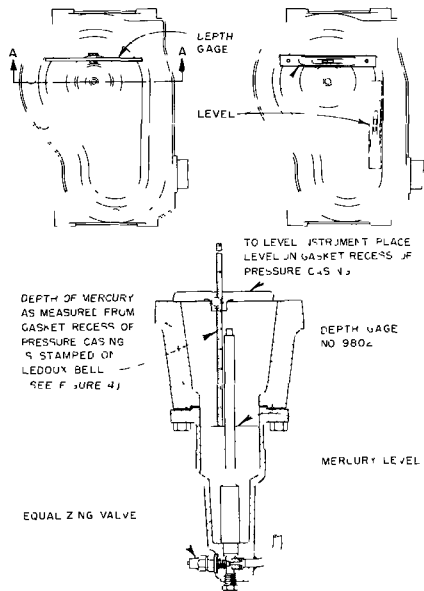
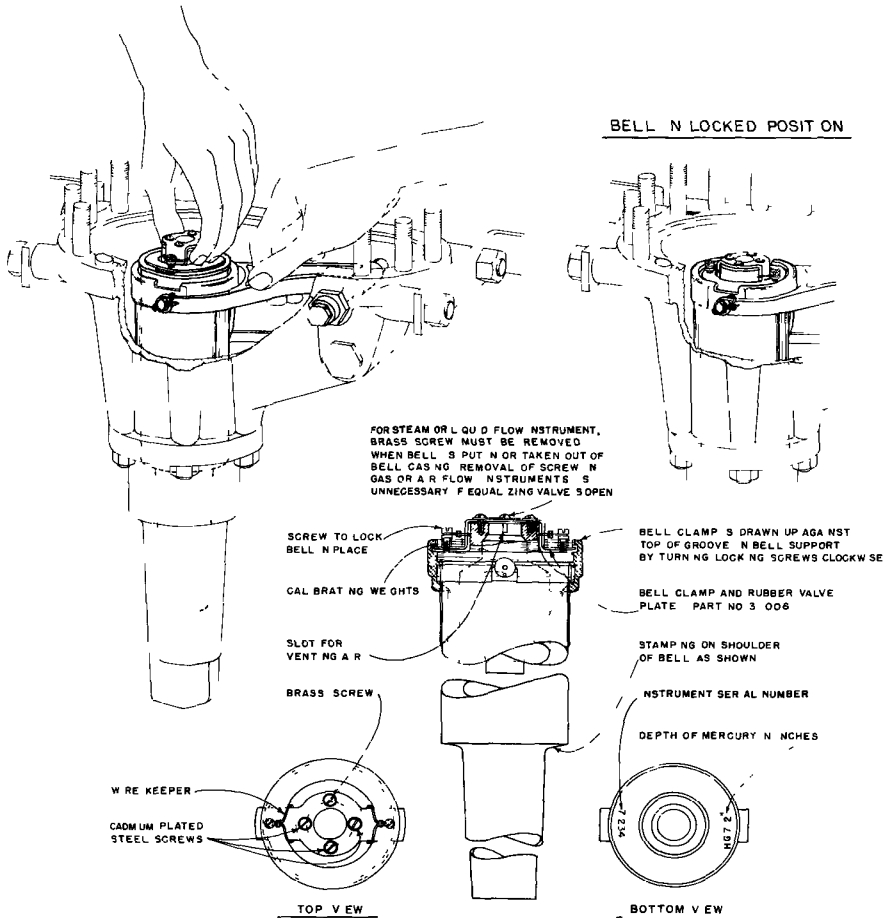

FIGURE 3 Level Instrument and Check Mercury Depth
FIGURE 4 - Installation of Ledoux Bell
2. Level instrument at flow mechanism pressure casing gasket recess (Figure 3) to insure that Ledoux bell operates without friction. Level instrument from left to right and from front to back. Then fasten securely.
2. Check that pressure casing passages (Figure 3) are clear as follows:
4. Place depth gage across top of gasket recess (Figure 3) and measure depth of mercury level from gasket recess of pressure casing. End of gage should just touch surface of mercury without denting it. Measured depth should correspond to figure stamped on Ledoux bell casing (Figure 4). If measured depth is greater than depth marked on casing, add pure mercury to bring level to required depth
5. Check that calibrating weights have not become detached from bell. Bind loose weights to bell with wire keepers wound around heads of locking screws (Figure 4)
6. Install Ledoux bell in pressure casing as follows (refer to Figure 4).
- (1) air trapped under bell
- (2) dirt accumulation on standpipe
- (3) bell rubbing against standpipe or pressure casing
b. Position cover gasket in recess of pressure casing (Figure 3).
a If reading is low, remove calibrating weights (Figure 4) from top of Ledoux bell to correct reading